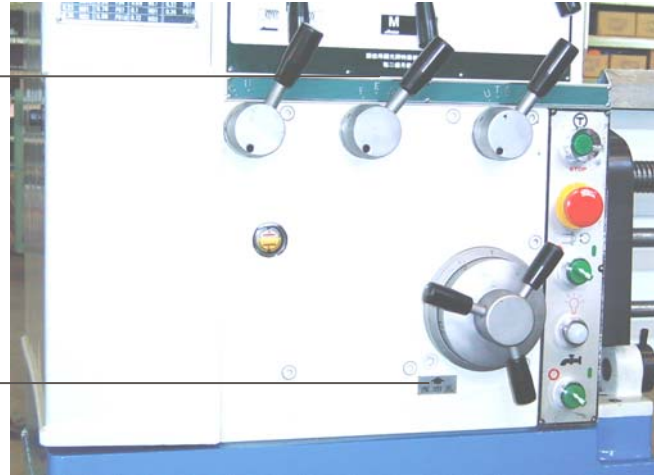

Fig. 7-3
2. Drain hole: On the left bottom side of the 10-step feed selection dial. The screw with hexagon nut is the oil drain hole as arrow ② shown on figure 7-3.